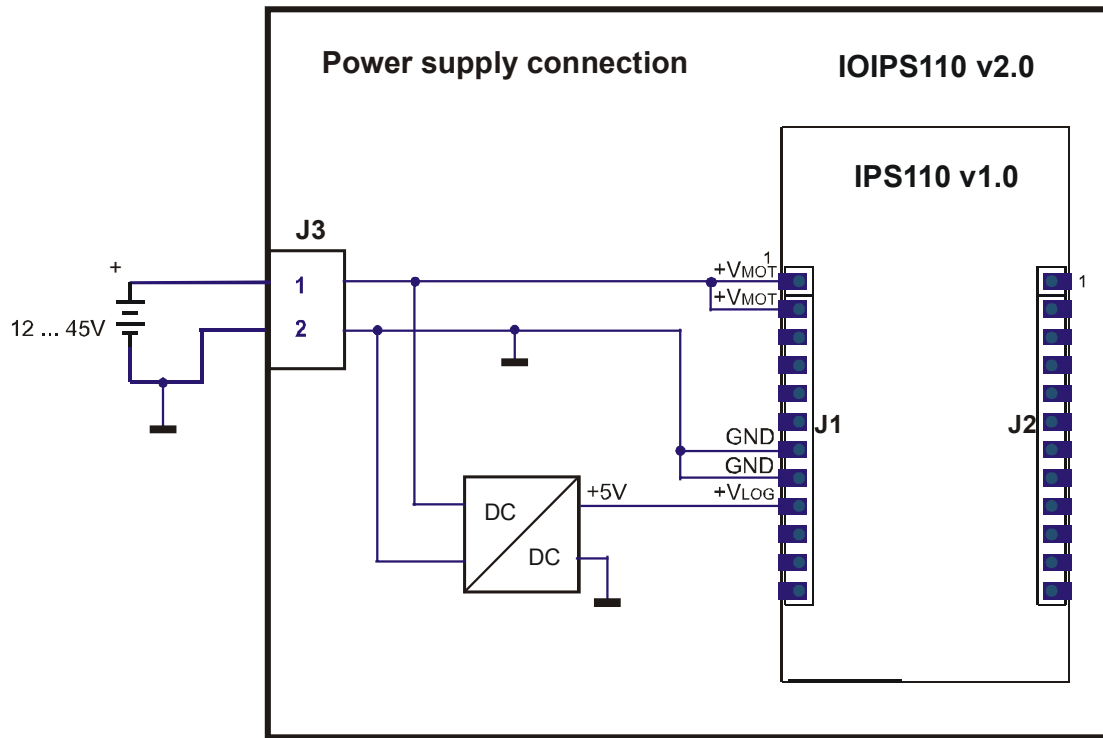
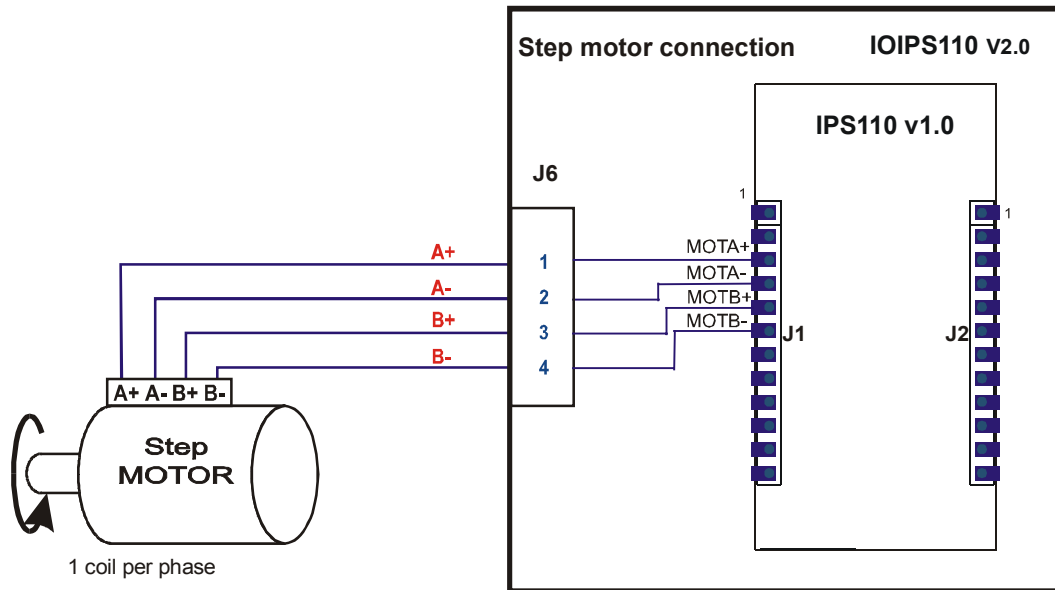

Figure 1. Power Supply – J1 Connector
Figure 2. Motor – J3 connector
1. Connect the power supply, the motor to the IOIPS110 board as you can see in the Figure1 and Figure 2.